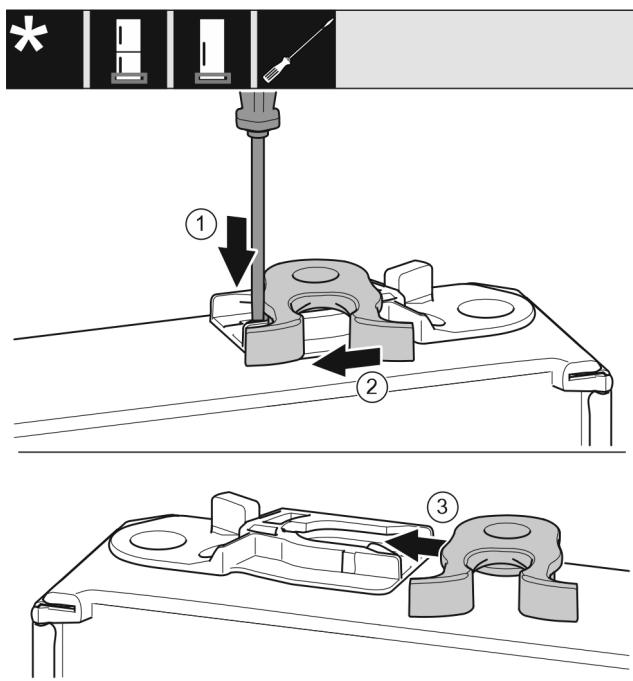

Fig. 23 \*
- Use a slotted screwdriver to push the tab Fig. 23 (1) downwards.\*
- Pull the closing hook Fig. 23 (2) out of the guide.\*
- Insert the closing hook Fig. 23 (3) into the guide on the other side.\*